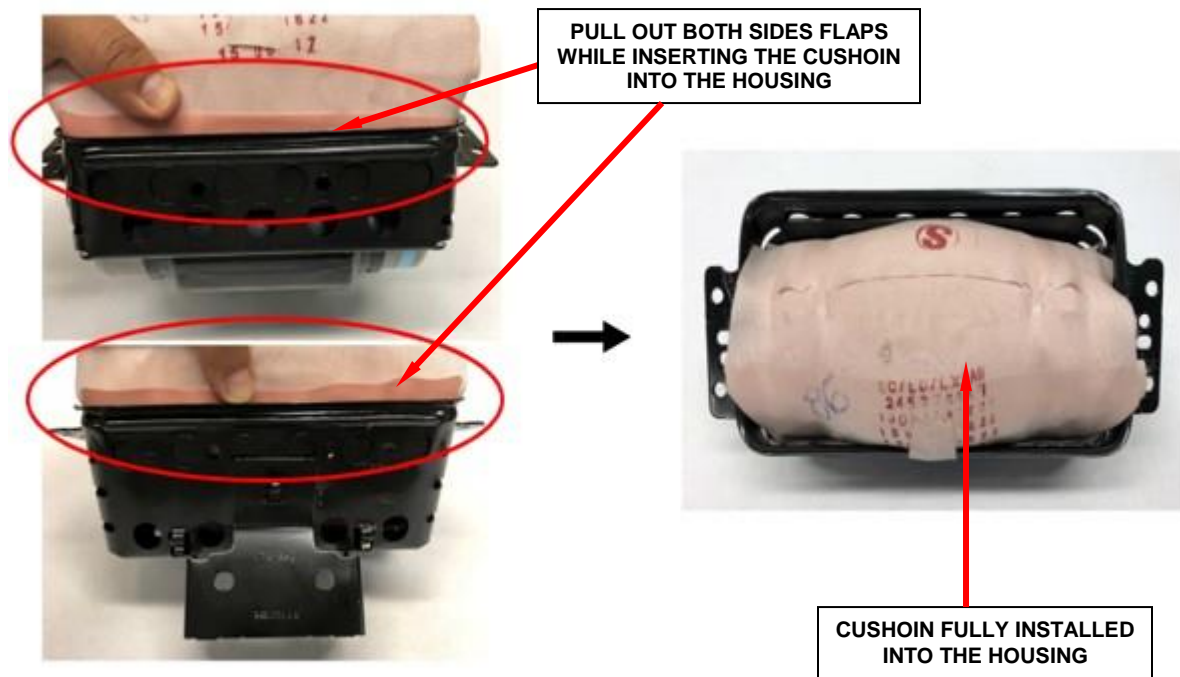

Figure 71 – Side Flaps Must Be Held Out
k. Insert the cushion, pulling out both side flaps (Figure 71).